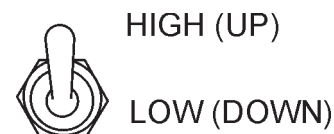

Figure 49. Engine Speed Switch
16. Set the engine speed switch (Figure 49) to low to idle engine, set to high when a load is being applied.